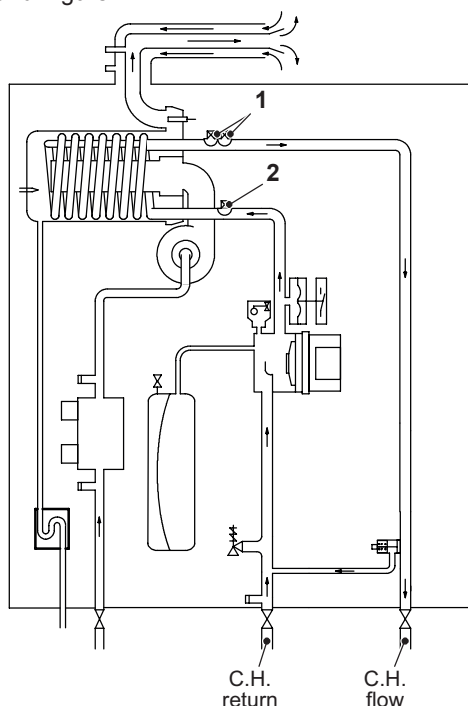
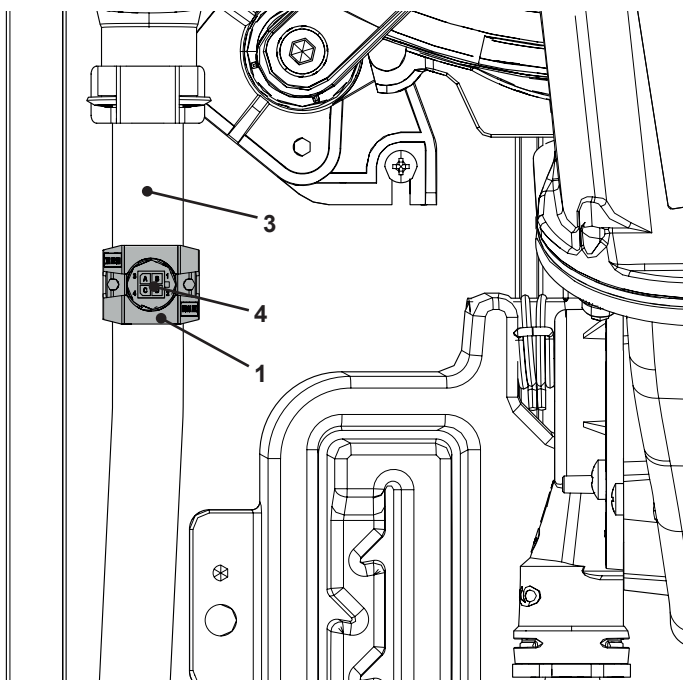
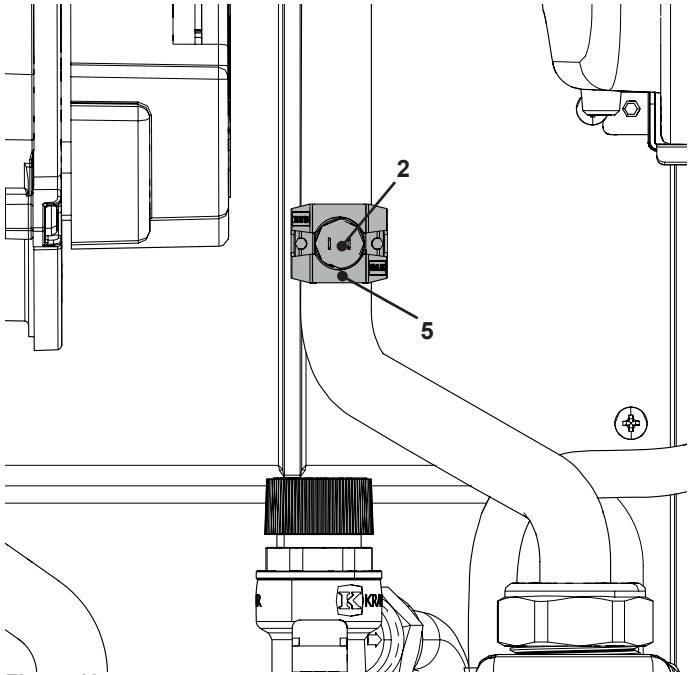

Figure 12.2
Figure 12.3
Figure 12.4
On the boiler there are three temperature probes. One on the output of the primary condensing heat exchanger (NTC heating delivery probe - NTC maximum temperature) "1" in Figure 12.2 and Figure 12.3, one on the return of the primary condensing heat exchanger (C.H. temperature return probe NTC) "2" in Figure 12.2 and Figure 12.4.
- 2 Remove the electric connector "4" and the NTC probe "1" (Figure 12.3).
- 2 Remove the electric connector "2" and the NTC probe "5" (Figure 12.4).